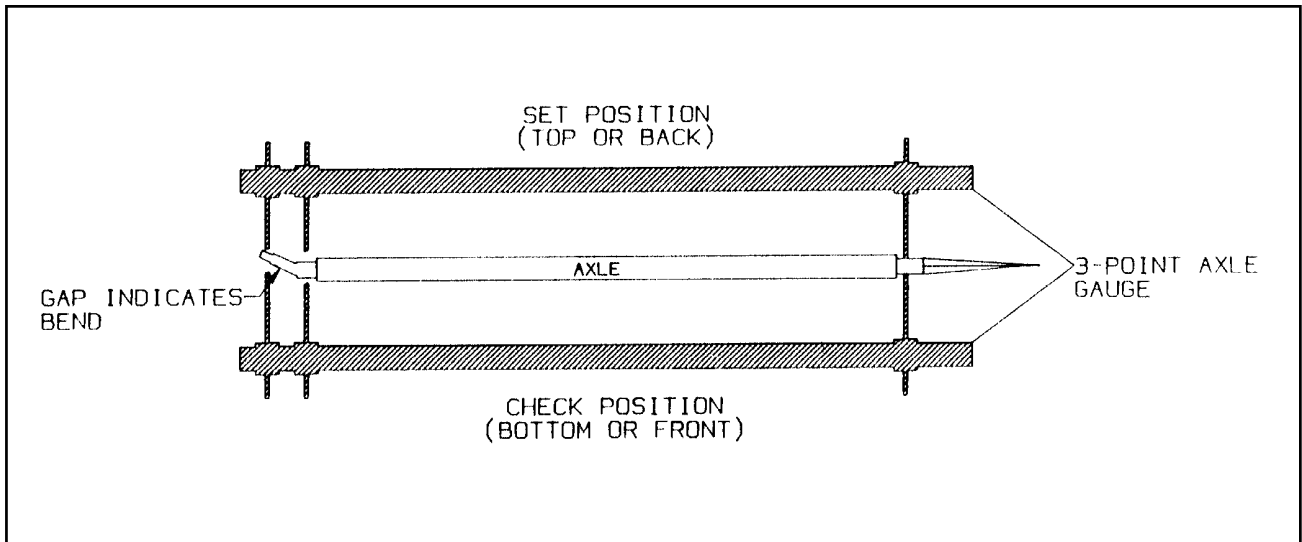

Figure 4-7 Checking Axle for Bend
- b. Place a 3-point axle gauge against the front side of the axle, and adjust each axle gauge point to the axle. (Double point end against the inner and outer wheel bearing surfaces of the spindle being checked and the other point on the inner bearing surface on the other spindle.) (See Figure 4-7).
- c. Move the axle gauge and place against the back side of the axle. If either of the points of double point end fails to touch the axle surface, a bent spindle is evident. A point gap of .015" or more is considered excessive tire "toe" and the axle must be replaced (See Figure 4-7).